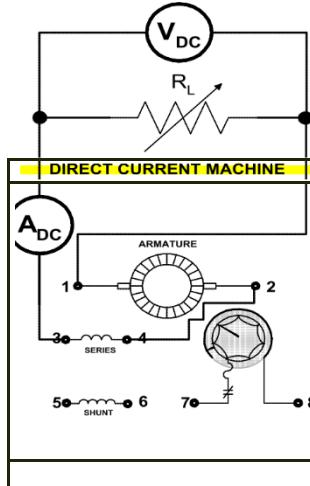

FIGURE 12.12
- Step 3: a) Using your EMS DC Motor/Generator, DC Metering and Resistance Modules, connect the circuit shown in Figure 12.12.